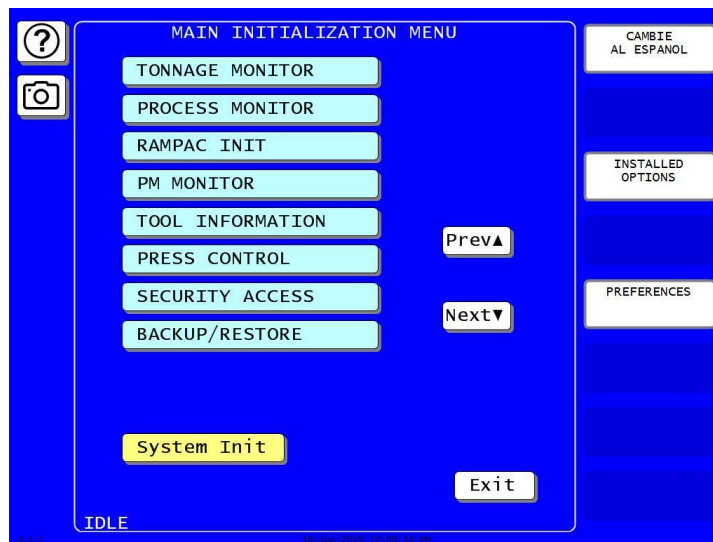

Figure 9. Main Initialization Menu with the BACKUP/RESTORE shown.
5. Select BACKUP/RESTORE from the Main Initialization Menu (see Figure 9).